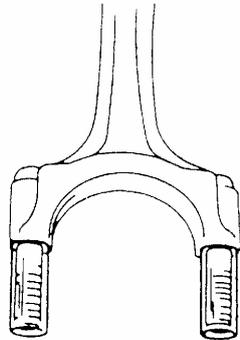

Fig. 4-135
3) Install lead cap to connecting rod bolts as shown in Fig. 4-135. When Installing connecting rod and piston, these lead cap can prevent thread of crank pin and connecting rod from Being damaged.